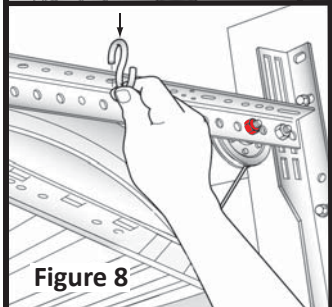

Figure 8
Step 8: Attach the "S" Hook to the right side Horizontal Angle (Fig 8) in a hole approximately 9"-12" back from the header.